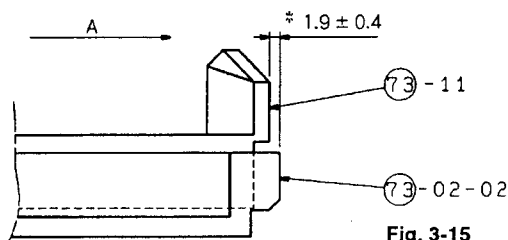

Fig. 3-15
- 1) Remove the (73)-10a washer, then detach the (73)-14a Drive Gear.
- 2) Remove the (73)-08a washer, then detach the (73)-15 Timing Gear.
**Notes** : • Handle the (73)-11 Cassette Holder with care so that it is not damaged, dented, etc.
• For reinstalling the Cassette Holder, refer to Fig. 3-15.
• Cassette Holderの取り付けは、Fig. 3-15を参照。